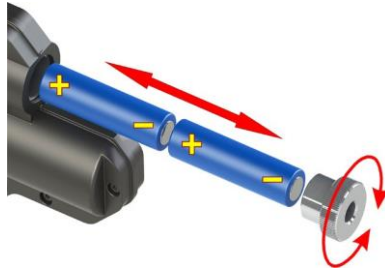

Fig. 8
4. Install batteries in the ST 400 (Fig. 8):